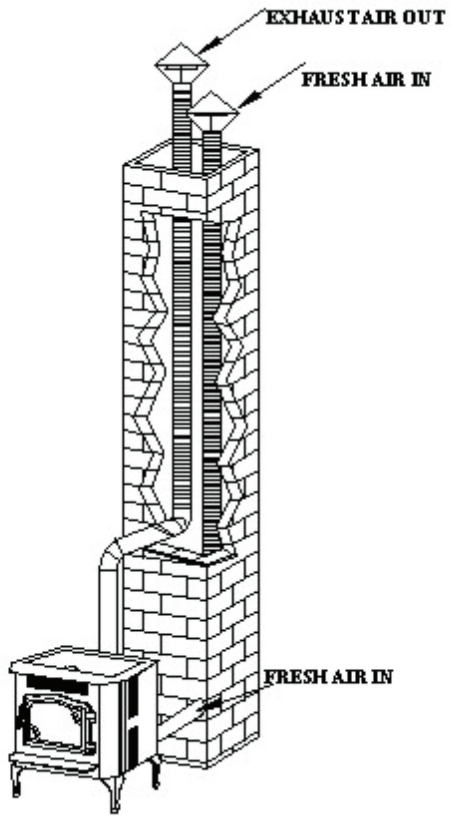

FIGURE 8: CHIMNEY FLUE AND FRESH AIR VENTING
3. Flue pipe joints need to be joined tightly to ensure air tight venting with at least (3) sheet metal screws and sealed with RTV silicone or approved aluminum flue pipe tape.
4. FIGURE 8 shows a sample of a factory recommended method of flue pipe installation. The vent pipe is extended just above the top of the existing chimney (consult local ordinances for code requirements.) The flue pipe must be fitted with a proper pellet flue cap. A storm collar and flashing should be installed to seal off the chimney opening.